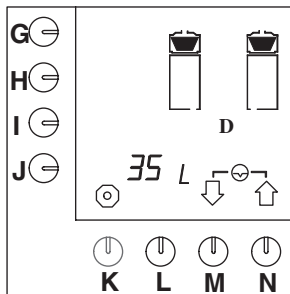
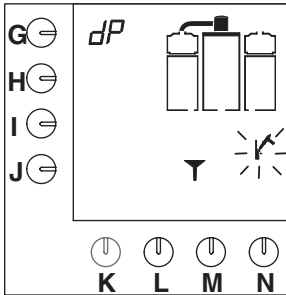

Fig. 14 Day counter coffee-making system
Fig. 16 Coffee-making system asks for descaling solution
After entering the users' PIN code fig.14 appears in the display. The total number of litres that have been made that day can be read from the display.
- Hold programming key (G.) down until fig. 14 re-appears on the display.
- Empty the coffee container through the tap (X).
- A signal sounds, the hammer symbol flashes and a funnel appears on the display (fig.16).